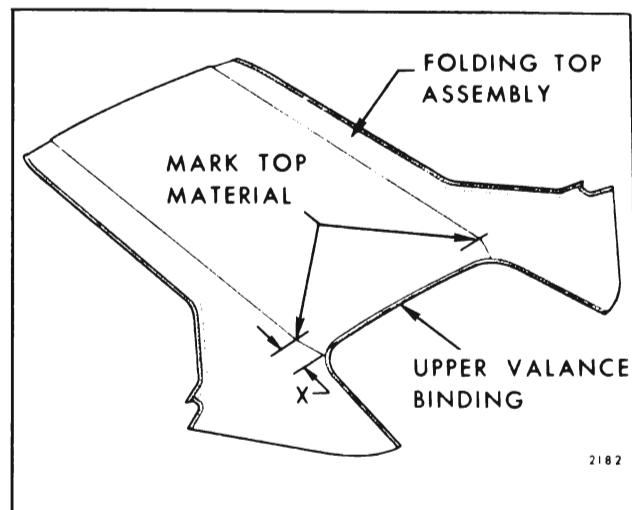

Fig. 13-38 — Marking Top Material
3. Using a pencil, mark top material (mark should be approximately 1/2" in length) at deck seam 5-1/4" on "B, C & F" and 4-1/4" on "A" Styles from edge of top material upper valance binding. (See dimension "X" in Fig. 13-38).